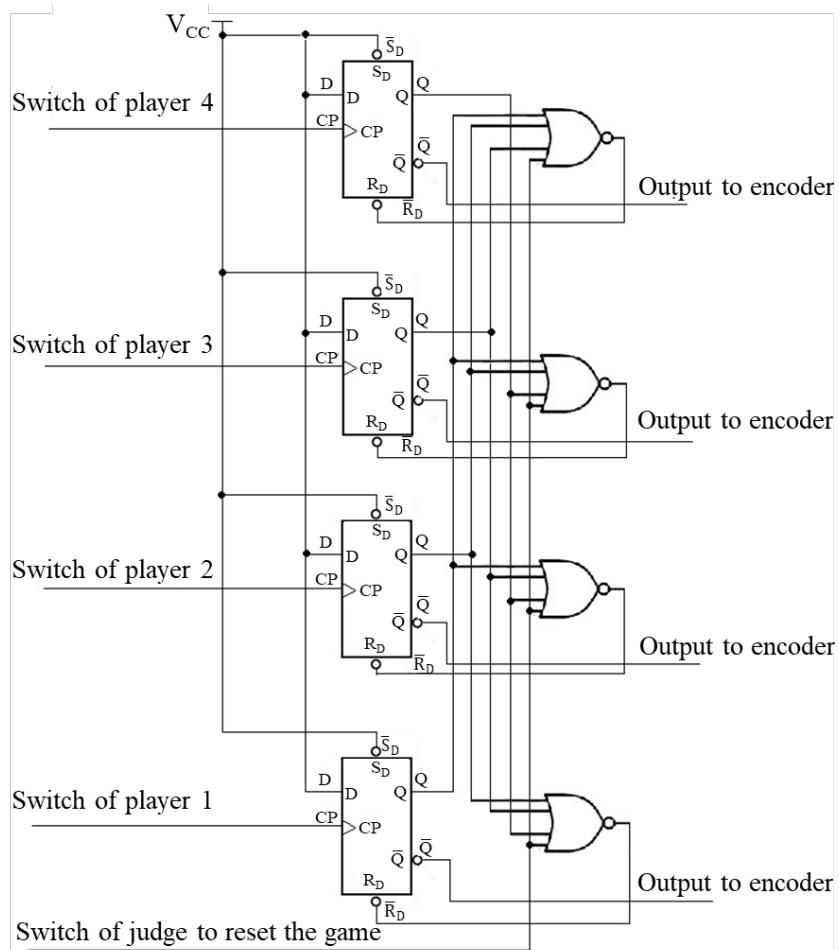

Figure 7. Circuit of the responder module.
- (1) Refer to the circuit diagram in Figure 7 and understand how it functions as the responder.
- (2) Build the circuit with 74HC74×2 and 4002×2. Use four channels of SIM for the four players and one channel for the judge. Use four channels of LOM to observe the outputs. You should observe that the LED is off for the fastest player who turns on the switch. Verify that the circuit works correctly.
- (3) Design a circuit to display the quickest player's ID on a 7-segment display. Hint: connect the 4 outputs from the circuit in Figure 7 to inputs 3, 4, 5, 6 of an 8-3 line priority encoder, as these inputs correspond to the BCD codes for numbers 1 to 4. The outputs  $A_2, A_1, A_0$  from the priority encoder should be connected to the 74HC47 to control the 7-Segment Display.